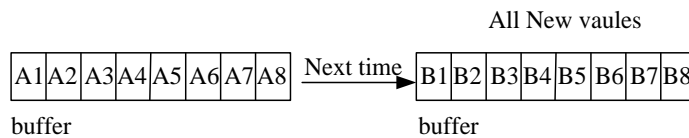

Figure 3-33
1. Assuming the Reading Average Time is set to = 8, Average Method to FIXED, readings sampling is that the device clears all of the old samples (A1 ~ A8) in the buffer and saves the new samples (B1 ~ B8), then average them in repetition as Figure 3-33 shows.